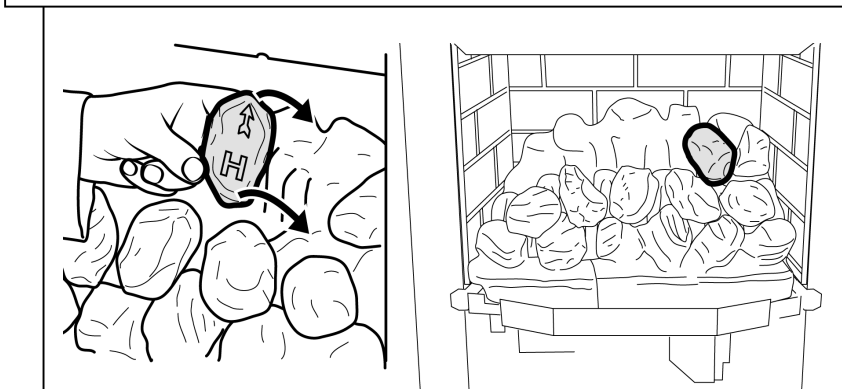

Figure 13. Third row "Coal H"
17. Hold coal 'H' upright with the arrow pointing to the top. Locate coal 'H' as shown in figure 13